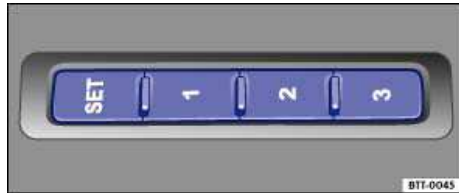

Fig. 71 Memory buttons on the outer side of the driver seat.
- Shift the transmission to Neutral (N).
- Press **SET** for at least 1 second ⇒ fig. 71.
- Press and hold a memory button ⇒ fig. 71 until memory position is reached.